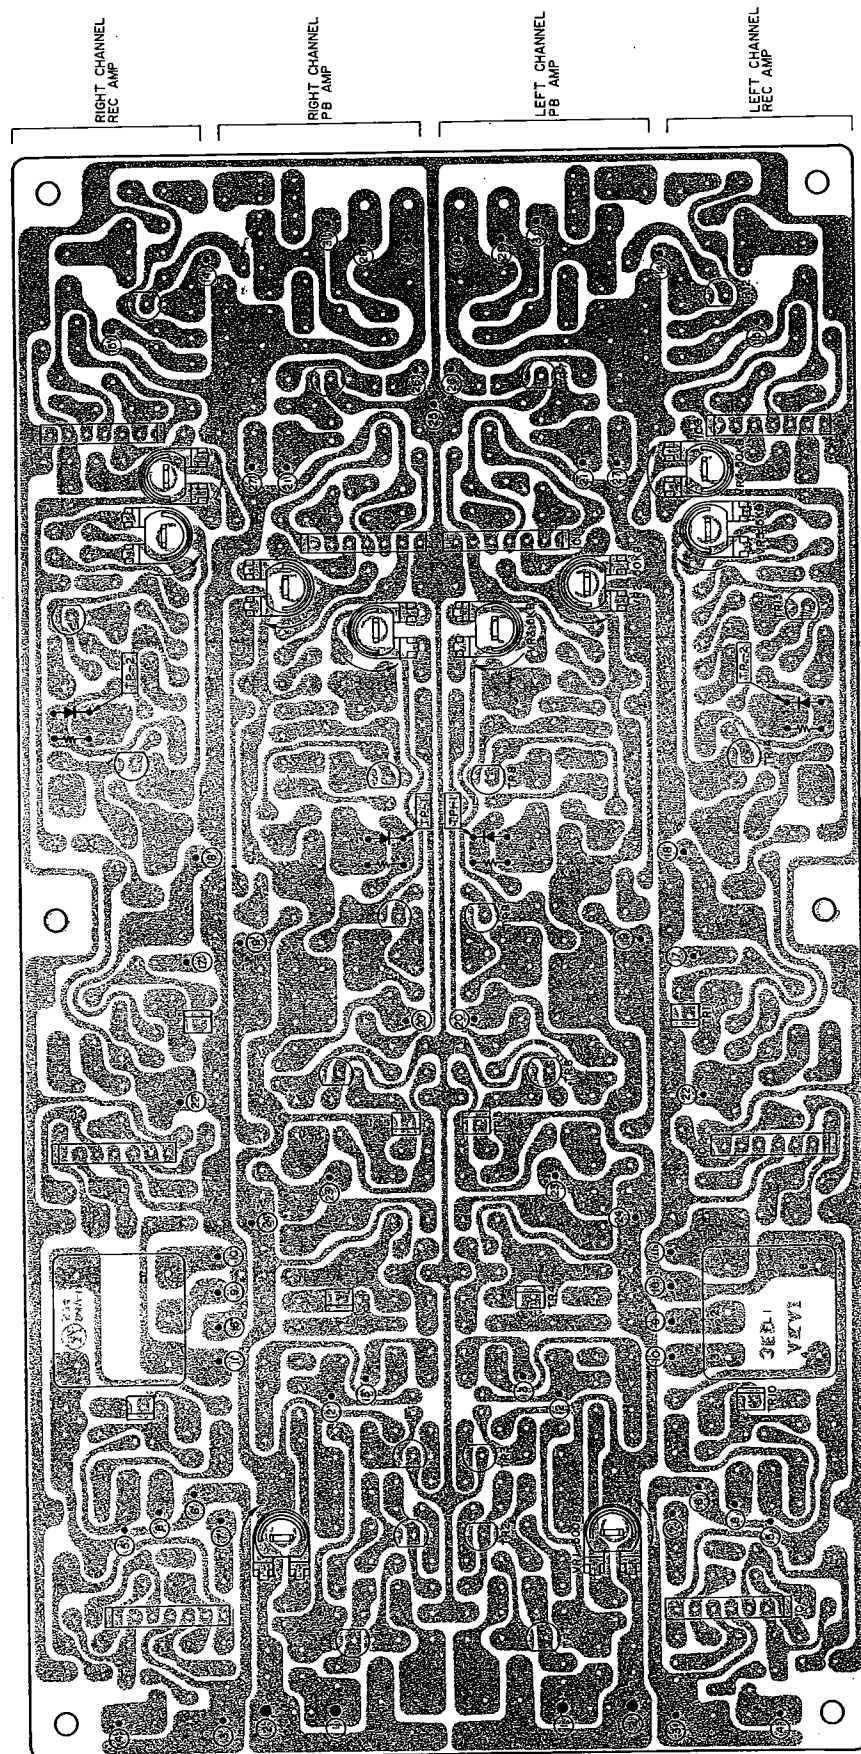

Fig. 16 Pre Amp P.C Board CA-5205
# 1. RECORDING/PLAYBACK AMPLIFIER ADJUSTMENT (Refer to Fig. 16, 17 and 18 and Chart-1)
## 2. DOLBY NOISE REDUCTION CIRCUIT ADJUSTMENT (Refer to Fig. 16)
#### AMPLIFIER ADJUSTMENT (Refer to Fig. 16)
- e. With the Dolby Noise Reduction Switch at ON, adjust semi-fixed resistor VR4, 50 k $\Omega$  shown in Fig. 16 to obtain a -20 dBm level at center terminal of "REC CAL" Volume.
- f. Disconnect test point TP2 from ground and adjust semi-fixed resistor VR5, 5 k $\Omega$  shown in Fig. 16 to obtain a -22 dBm level at center terminal of "REC CAL" Volume.
- d. Supply a 5 kHz signal to terminal (13) shown in Fig. 16 and obtain a -20.5 dBm line output level.
- e. Set the Dolby Noise Reduction Switch to ON and adjust semi-fixed resistor VR2, 50 k $\Omega$  shown in Fig. 16 to obtain a -30.5 dBm line output level.
- f. Disconnect test point TP1 from ground and adjust semi-fixed resistor VR3, 5 k $\Omega$  shown in Fig. 16 to obtain a -28.5 dBm line output level.